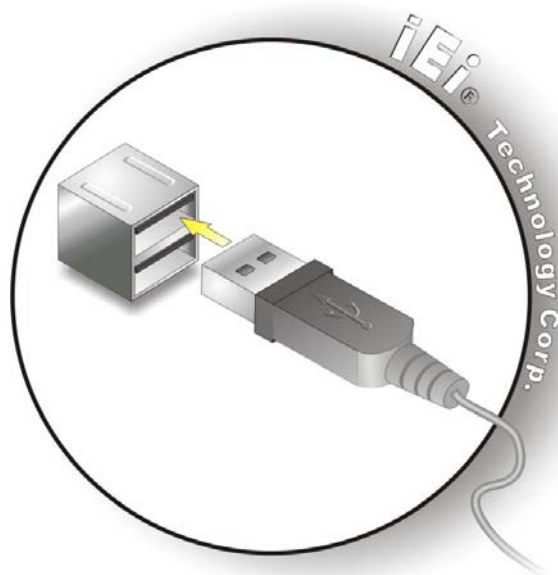

Figure 5-24: USB Connector
Step 4: **Insert a USB Series "A" plug.** Insert the USB Series "A" plug of a device into the USB Series "A" receptacle on the external peripheral interface. See **Figure 5-24**.